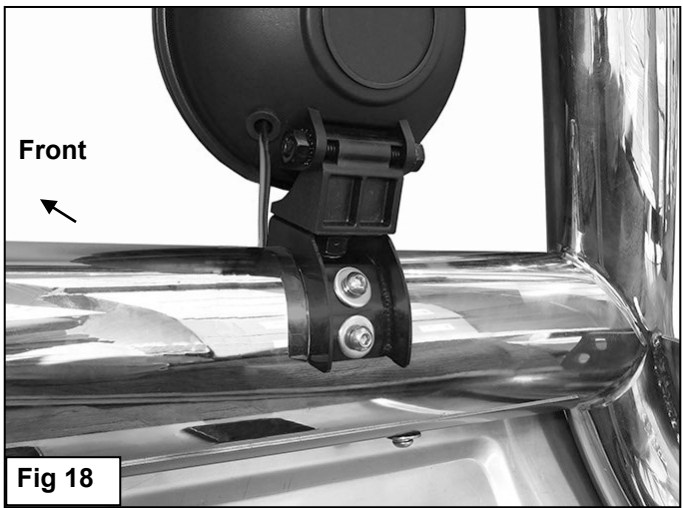

Fig 18
- a. Select (1) Light Mount, **(Figure 17)**. Use the hardware included with the light to attach the light to the top of the Light Mount. If light has a separate tilt feature, fully tighten base mounting hardware, **(See example Figure 18)**. If light adjusts with the base mounting hardware, skip to **Step 9b**.
- b. Remove the rubber plug on the top of the crossbar. Bolt the light and Light Mount to the back of the Bull Bar with the included (4) 6mm x 20mm Button Head Bolts, (4) 6mm Lock Washers and (4) 6mm Flat Washers, **(Figure 18)**. **NOTE:** If light adjusts with the base mounting hardware, hand-tighten the light hardware; do not fully tighten hardware at this time. You may have to install, adjust, remove light with Bracket and readjust a few times to get the light properly adjusted.